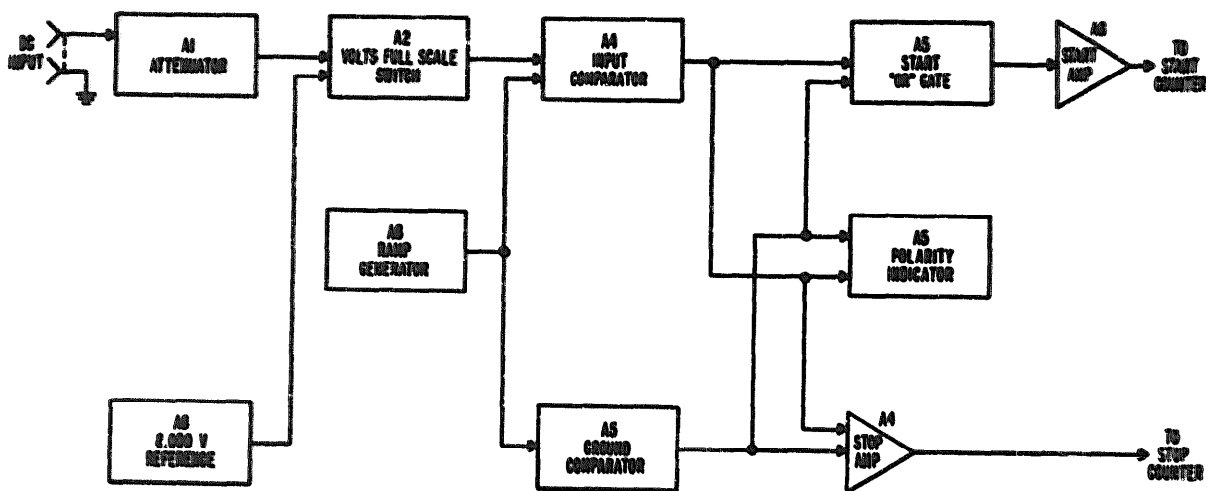

Figure 4-1. Simplified block diagram.
a. The PL-1344/U provides measurements of dc voltages to 1,000 volts when inserted in the compartment provided in Model 5245L/M, 5246L, or 5248L/M Electronic Counters. The plug-in digital voltmeter permits measurements on one of three voltage ranges (10, 100, 1,000 volts), provides manual selection of local or remote programming, and automatically indicates polarity of the applied input dc voltage. Figure 4-1 is a simplified block diagram of the PL-1344/U.